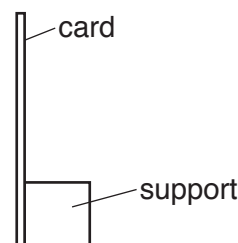

Fig. 3.2
- (iv) Plain white screen. A sheet of stiff white card approximately 15 cm × 15 cm, fixed to a wooden support, is suitable (see Fig. 3.2).